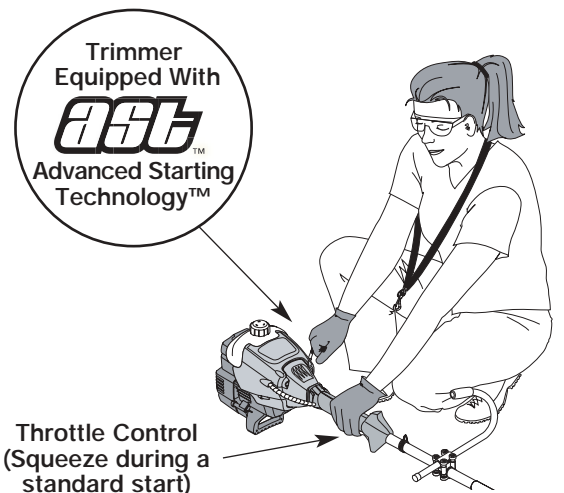

Fig. 26
**WARNING:** Avoid accidental starting. Make sure you are in the starting position when pulling the starter rope (Fig. 26). To avoid serious injury, the operator and unit must be in a stable position while starting.
5. Crouch in the starting position (Fig. 26) and squeeze the throttle control. Pull the starter rope 5 times.